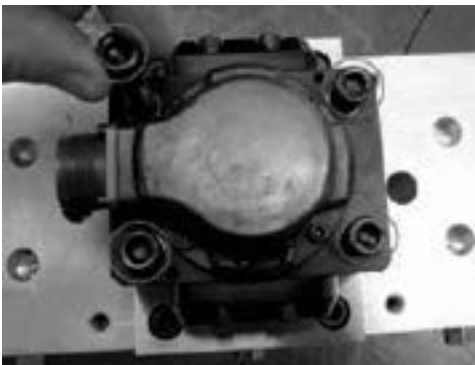

Figure 3. Remove the four mounting bolts to remove the servo valve.
3. Remove servo valve by removing the 4 mounting bolts (Figure 3)